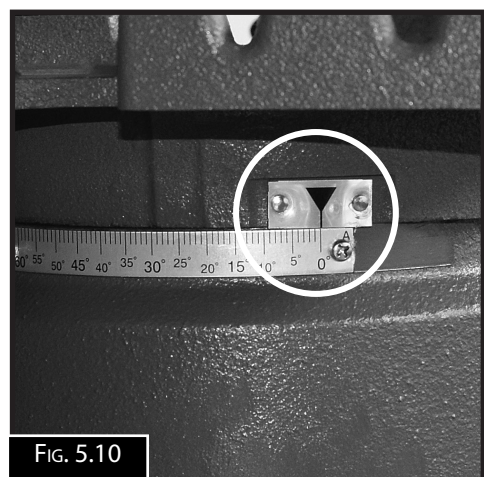

FIG. 5.10
3. Raise the saw bow, then move the head and set the scale to "0". (Fig. 5.10) then lower the saw bow and lock in place.